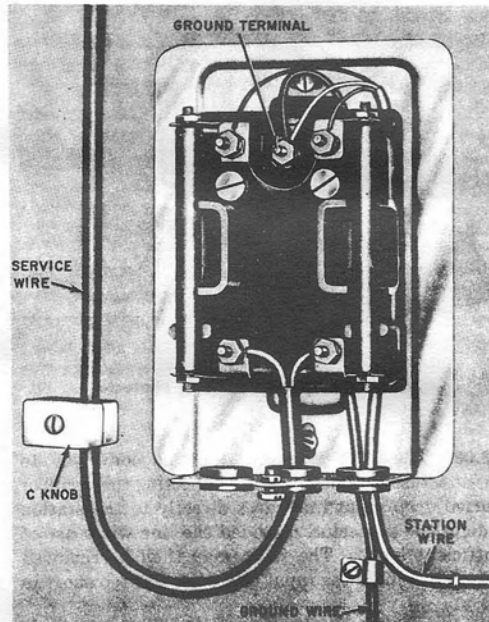

Fig. 81—1293C (DA) Protector—Cover Removed
15.01 Illustrations of superseded protectors, mountings, connecting blocks, and brackets are shown in Fig. 81, 82, 83, 84, 85, 86, and 87.